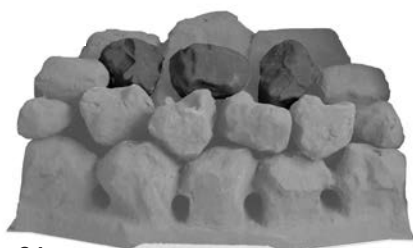

Fig. 24
5. Choose three loose coals and place them in line on the next row up, again making sure all the gaps are even. It is important that the coals 'bridge' the peaks of the fuel bed and are not placed in between. This helps the flow of burnt gases and should give an even glowing fuel bed (Fig 24).